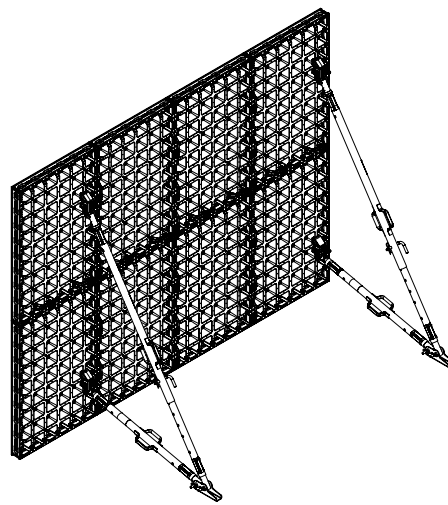

Fig. B1.07
8. Install push-pull props (38, 39) continuously according to the applicable width of influence. (Fig. B1.07)
1. Install the closing formwork in the same way as the primary formwork. (Fig. B1.07)